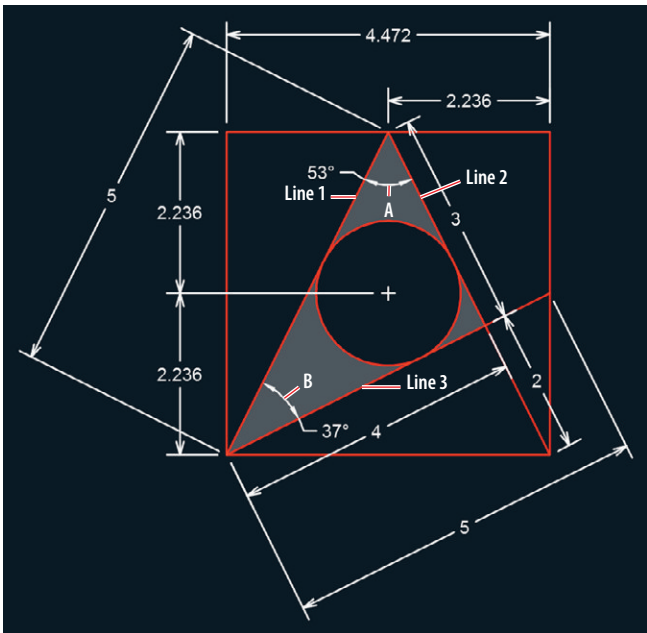

FIGURE 11.17 Adding angular dimensions
9. Open the dimension menu in the Annotation panel, and select the Angular tool. Select lines 1 and 2 shown in Figure 11.17, and then click point A. Press the spacebar to repeat the DIMANGULAR command, select lines 1 and 3, and then click point B.